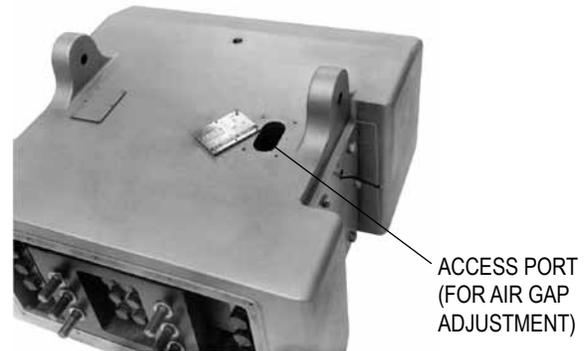
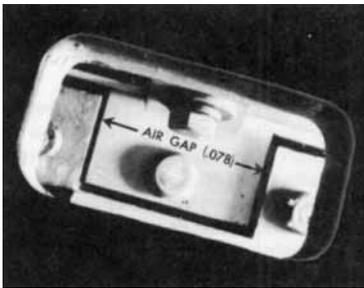

FIGURE 6
FIGURE 7
9. Remove the nameplate from the top of the body casting to gain access to airgap (see Figure 6).
10. Work through the port in the top of the body casting (see Figure 6) and using a non-magnetic feeler gauge approximately .072" (1.8 mm) thick (furnished with each unit), check the air gaps between the E-Frame legs and the armature pole pieces (see Figure 7). These gaps should be uniform in width and parallel and as nearly alike as possible; if they are not, they should be adjusted by shifting the electrical assembly plate with the front or rear adjustment screws. In checking the gaps, the internal parts will be easier to see if the rear cover and the opposite port covers are removed.